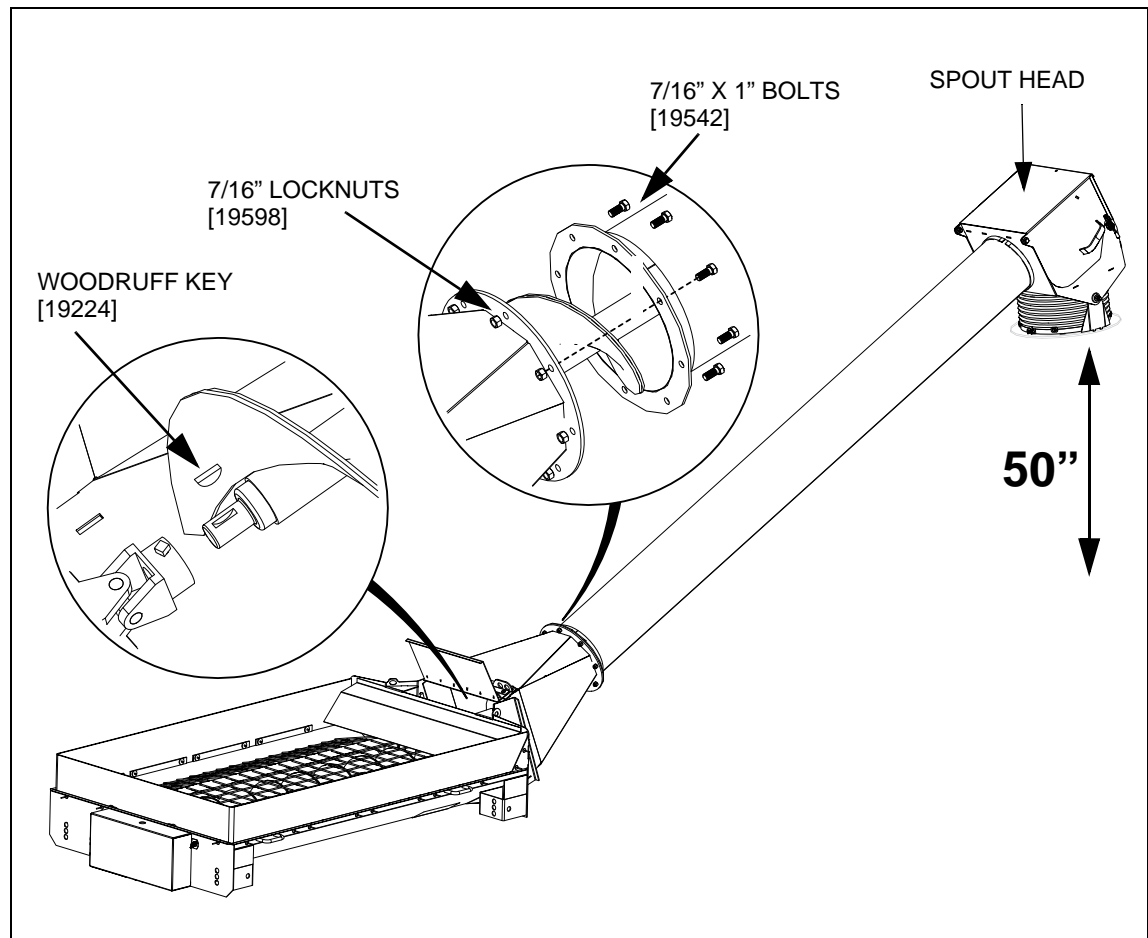

Figure 3.37 Connection the Flighting and Tube
2. Clean dirt and paint from inside the u-joint and flighting shaft end, grease the shaft end, then insert a Woodruff key (Figure 3.37).
4. Open the service door on the Transition, then bring the tube and Transition together guiding the flight shaft into the u-joint (Figure 3.37).